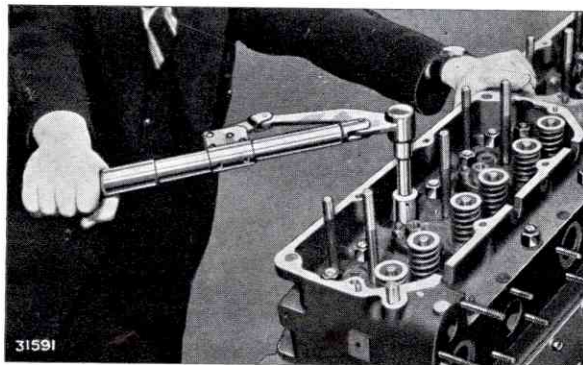

FIG. 19. TIGHTENING CYLINDER HEAD NUTS USING A TORSION SPANNER
11. To ensure freedom from distortion and gasket leaks, the cylinder head nuts should be tightened down evenly in a definite order, starting at the centre and working outwards, as shown in Fig. 34. First tighten down with a short spanner, then with a torsion spanner set at 150/160 lb./ft. (20.7/22 kg.m.), see Fig. 19.